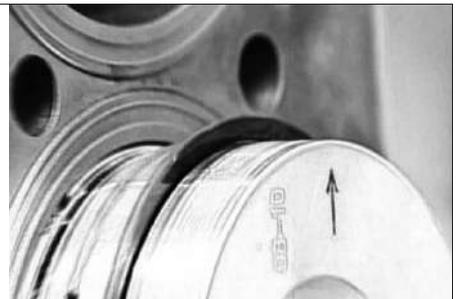

Fig 5-10 Piston Installation
1.12 Coat some oil on piston and surface of cylinder sleeves before installing pistons, Use special tooling to install piston with connecting road assembly into sleeves, make arrow mark on top of piston faces to front end of crankshaft (see Fig 5-10).